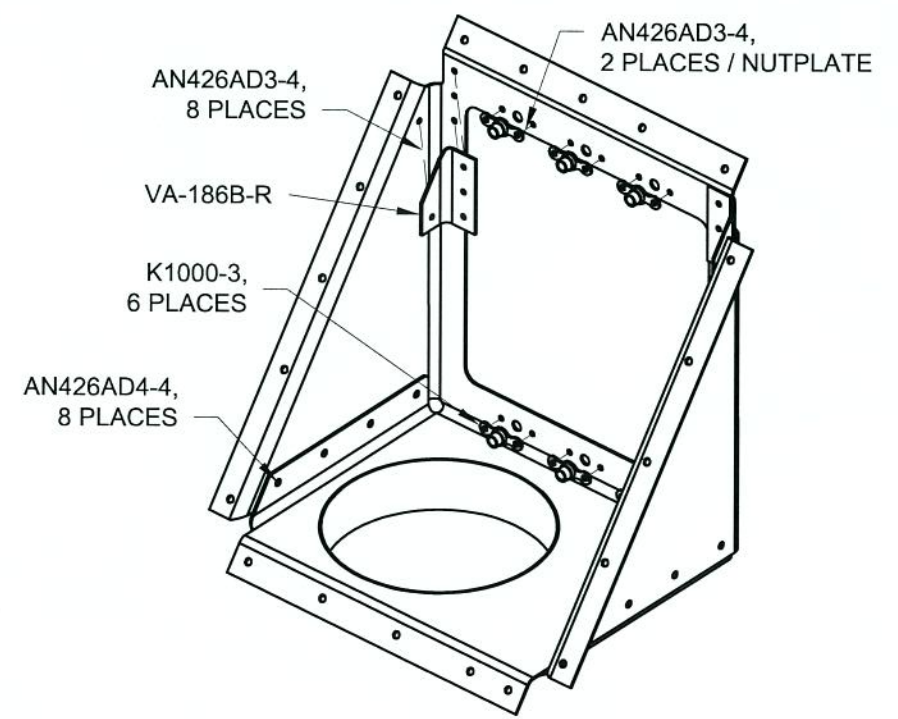

FIGURE 2: ASSEMBLING THE OIL COOLER BOX ASSEMBLY
Step 2: Cleco the VA-186B-L and -R Gussets to the VA-186A Oil Cooler Box as shown in Figure 2. Cleco the oil cooler box to itself. This will create the VA-186 Oil Cooler Box Assembly.
Step 5: Rivet the VA-186B-L and -R Gussets and nutplates to the VA-186A Oil Cooler Box as shown in Figure 2. Rivet the oil cooler box to itself as shown in Figure 2.